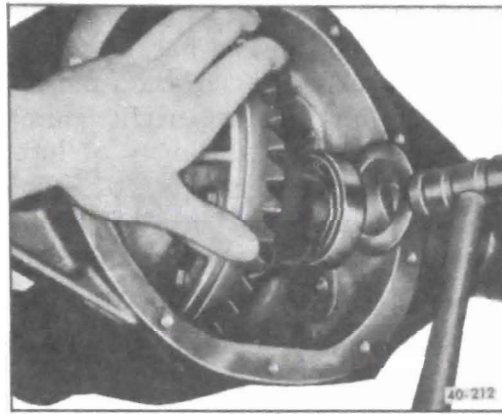

Figure 40-199 - Installing Side Bearing Shims
2. Place differential case and bearing assembly in position in carrier. Install a service spacer .160" between each bearing outer race and the carrier. Using a micrometer, measure the production cast iron shims initially removed from carrier and record the measurements. Add the thickness difference (in shims) between the service spacer (.160") and the original shim to the respective end of the case between the bearing outer race and the cast service spacer by using a soft faced hammer. See Figure 40-199. Install side bearing caps, as previously marked and tighten bolts to 55 lb.ft. before checking side bearing preload or backlash.